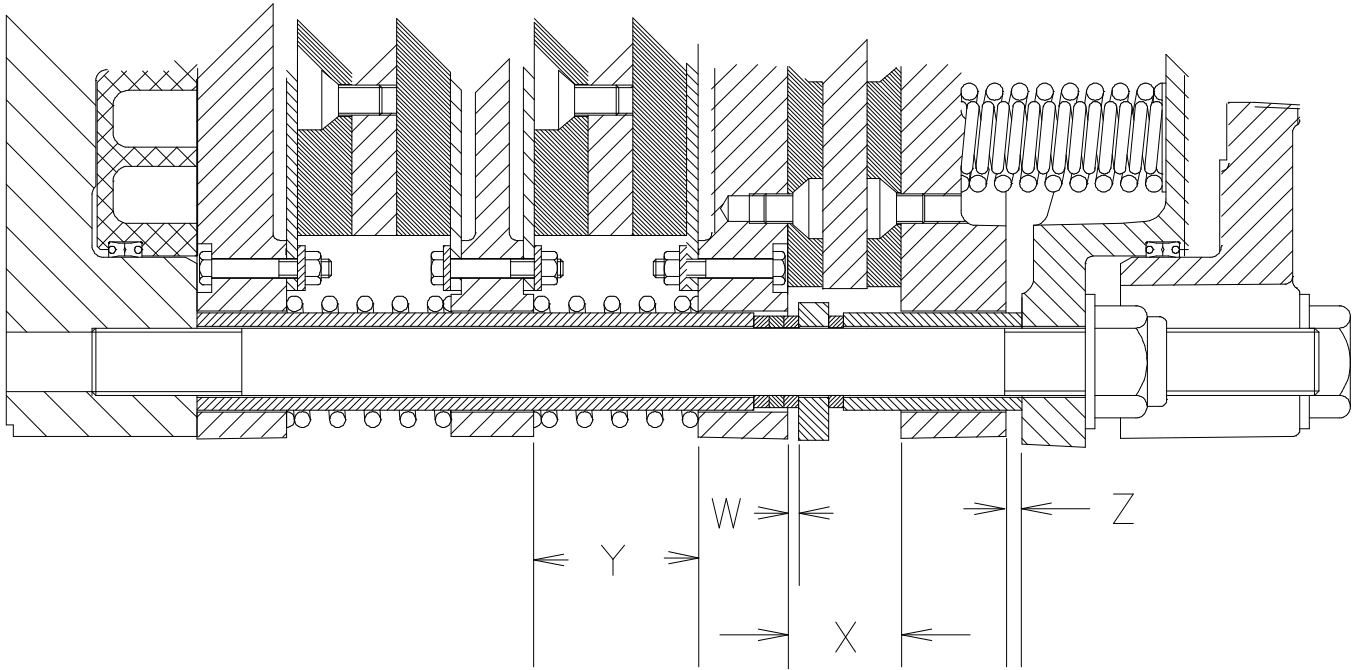

Fig. 6
Exhaust all air from the cylinder to engage the brake. Measure the gap "X" between the pressure plate (13) and the end plate (117), as shown in Figure 6. If the measured gap is at or below the  $X_{\text{worn}}$  value listed in Table 8, AND none of the friction discs (118) are worn to the bottom of the wear groove or step, adjustment is required. Refer to the adjustment and wear spacer removal procedures in Section 4.2.2. If any of the friction discs have worn to the bottom of the groove or step, or gap "X" measurement indicates full wear has been reached, disassemble the unit per Section 4.3 and inspect and replace parts in accordance with the wear limits on Table 7.
Measure the "Y" gaps between the pressure plate (116) and end plate (117), pressure plate (116) and reaction plate (30), reaction plate (30) and end plate (117), or between reaction plates (30) as applicable, similar to that shown in Figure 6. If the " $W_{\text{worn}}$ " dimension has been reached or exceeded and the "Y" dimensions have not reached the limits shown in Table 8 **AND** none of the friction discs are worn to the bottom of the wear groove / step, wear adjustment is required.